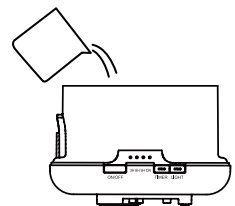

Fig 3
2. In order to fill the water tank, use the measuring cup provided and fill the water tank up to 300ml with water. (Fig 3)